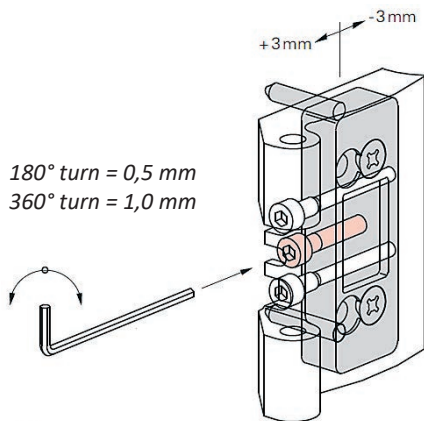

Figure 11.6. Folding window hinge, regulation
- Turn the middle screw (Figure 11.6)